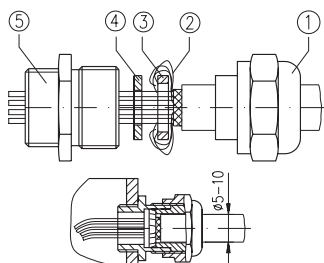

Fig. 3 : Cable connection PG9
**With PG7 (fig. 3) :**
- Push the nut (1) and the plastic bushing (2) onto the cable.
- Put the wire screening (3) over the plastic bushing (2).
- Slide strands through screw hole (4). Insert plastic bushing (2) into the screw fitting.
- Fix nut (1) and then fix the complete PG-screw to the casing.